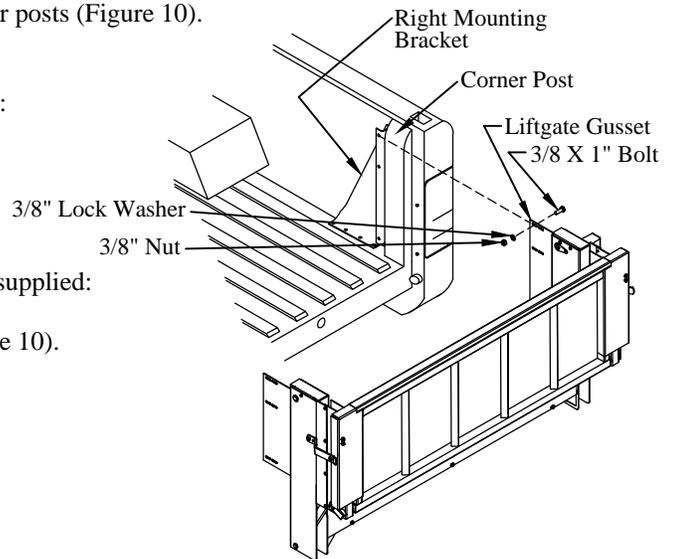

Figure 10: Mounting bracket and liftgate.
- 1. Position** the mounting brackets into the truck bed in front of the corner posts (Figure 10).
- (3) 3/8"x1" hex head bolts on the bracket-side (Figure 10).
- (3) 3/8" lock washers, and (3) 3/8" nuts on the gusset-side (Figure 10).